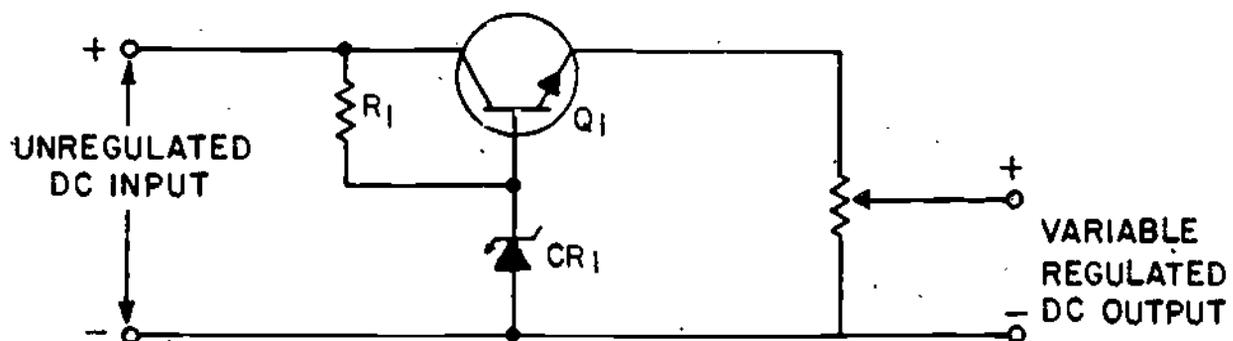

FIGURE 10
- (18.) Study the schematic shown in Figure 10. Notice that a potentiometer is included as part of the circuit.